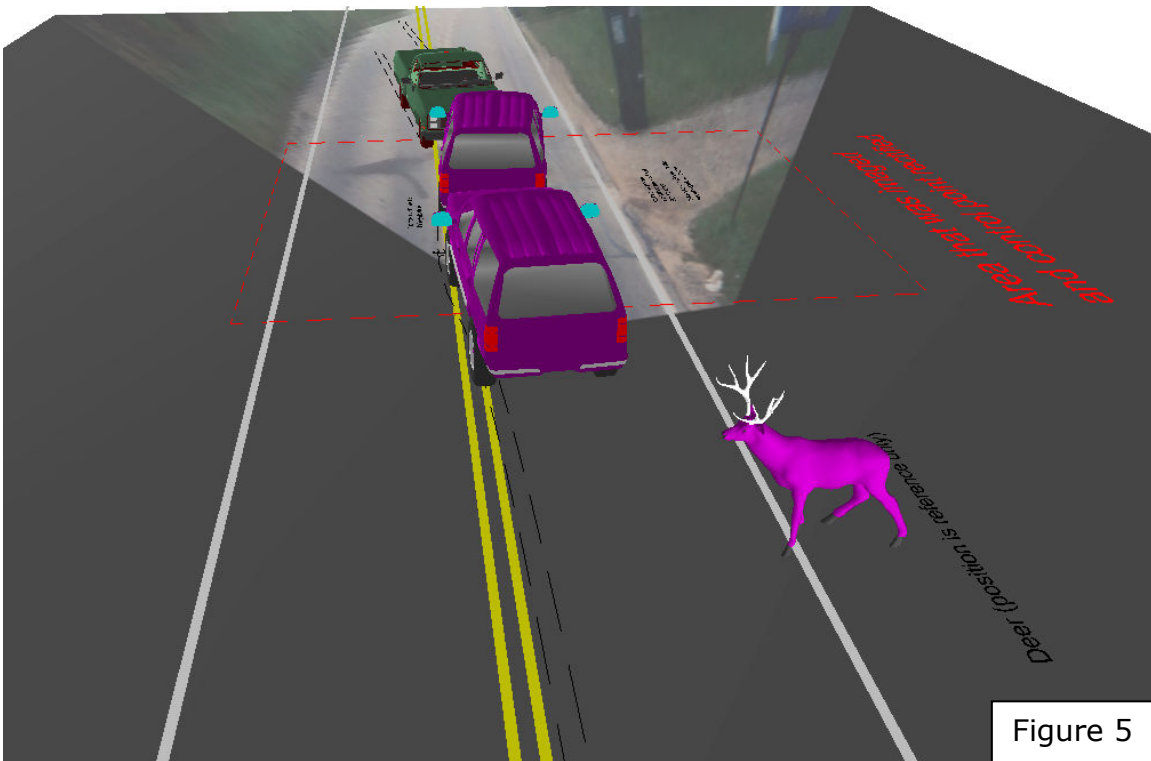

Figure 5
**Figure 5** oblique view looking north (SUV in Purple). The deer location is reference only